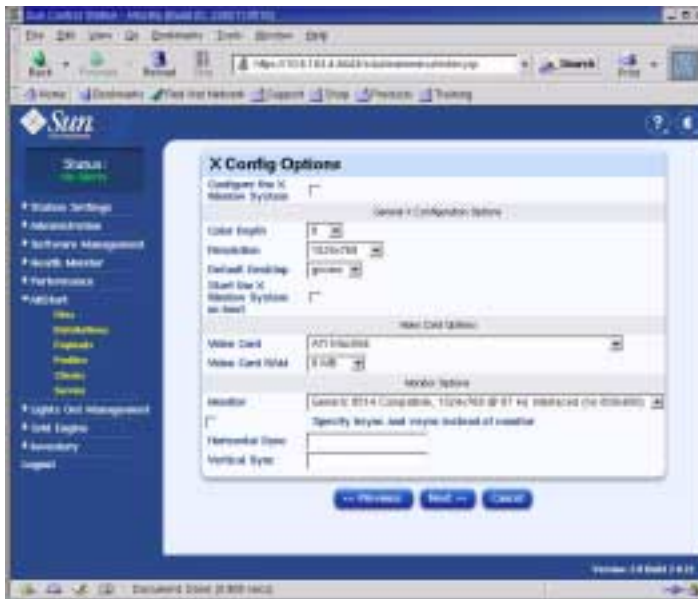

FIGURE 2-15 X Config Options Window (AllStart Profiles)
- f. In the X Config Options window, make the selection that you require (see FIGURE 2-15 for an example). Click Next when you are finished.